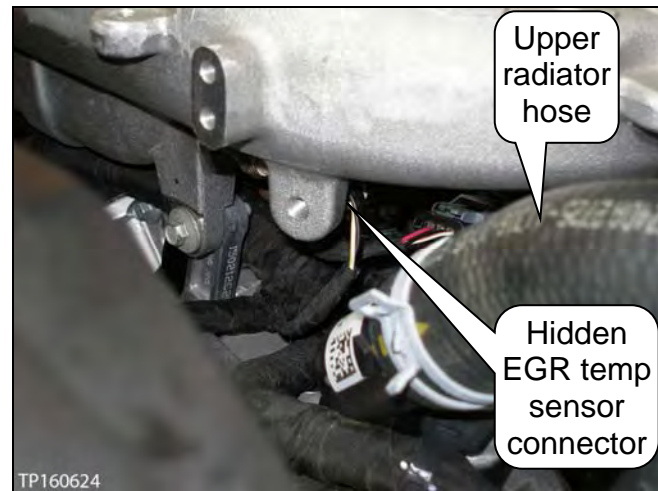

Figure 36
27. Disconnect the EGR temperature sensor connector (see Figure 36 and 37).